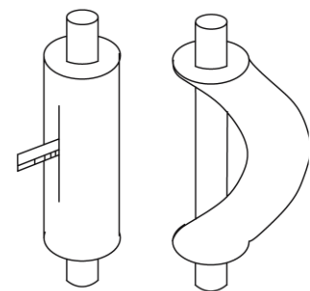

Fig. 12
- (1) Reshape the pipe by hand. Be careful not to damage the pipe.
- (2) Do not bend the pipe over 90°.
- (3) If pipe is repeatedly bent or stretched, it will get hard and difficult to bend and stretch again. Therefore, do not bend or stretch the bend for over 3 times.
- (4) In case that direct bending will open cracks to the pipe, first use sharp cutter to cut the insulating layer, as shown in Fig. 12. Do not bend the pipe until it is exposed. When bending is done, wrap the pipe with insulating layer and then secure it with adhesive tape.